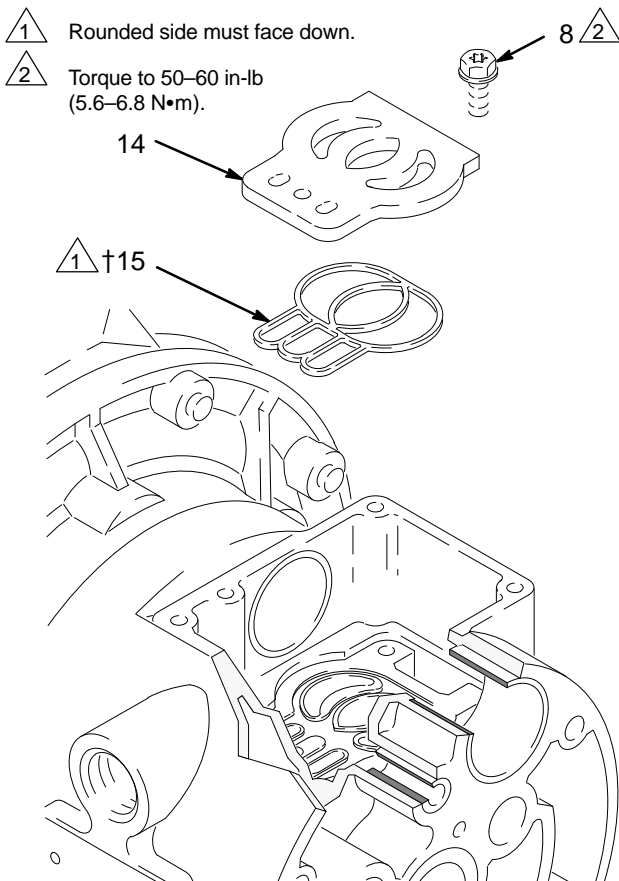

Fig. 11
5. Inspect the valve plate (14) in place. If damaged, use a Torx (T20) screwdriver or 7 mm (9/32 in.) socket wrench to remove the three screws (8). Remove the valve plate (14) and seal (15). See Fig. 11.
2. Install the valve plate seal (15†) into the groove at the bottom of the valve cavity. The rounded side of the seal **must face down** into the groove. See Fig. 11.
3. Install the valve plate (14) in the cavity. The plate is reversible, so either side can face up. Install the three screws (8), using a Torx (T20) screwdriver or 7 mm (9/32 in.) socket wrench. Torque to 50–60 in-lb (5.6–6.8 N•m). See Fig. 11.